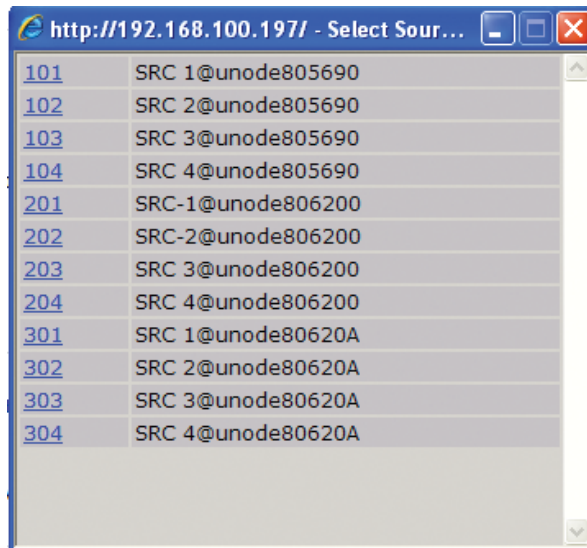

Figure 2-2
- The next step would be to define the audio that is present at the output. This is done by choosing the browse button next the channel text box. A popup will appear with a list of sources that are present on the network. A sample of three xNodes freshly installed into a network is shown in figure 2-2. At this point, not many sources have been configured with valuable descriptive names. Hopefully you see the value of the good practice in using the naming fields. Once you have configured all your xNode sources and other Livewire devices, this browse popup will have more descriptive information which will help you locate the correct source to assign to an output (Destination).
If you notice in figure 2-2, the three xNodes are showing a default host name which provides little assistance to the end user. To resolve this you can select the *System* link under the *Advanced Options* to change the host name to something more descriptive (e.g. Studio1-MICs, TOC-AES1, SATRCK-GPIO1). With a descriptive host name applied to the xNode, a listing of available audio streams will be displayed in a more descriptive manner, i.e., Host-Mic@Studio1-MICs Guest1@Studio1-MICs CD1@Ctrl1-AES WXYZ-tune@TOC-ANA1, etc.